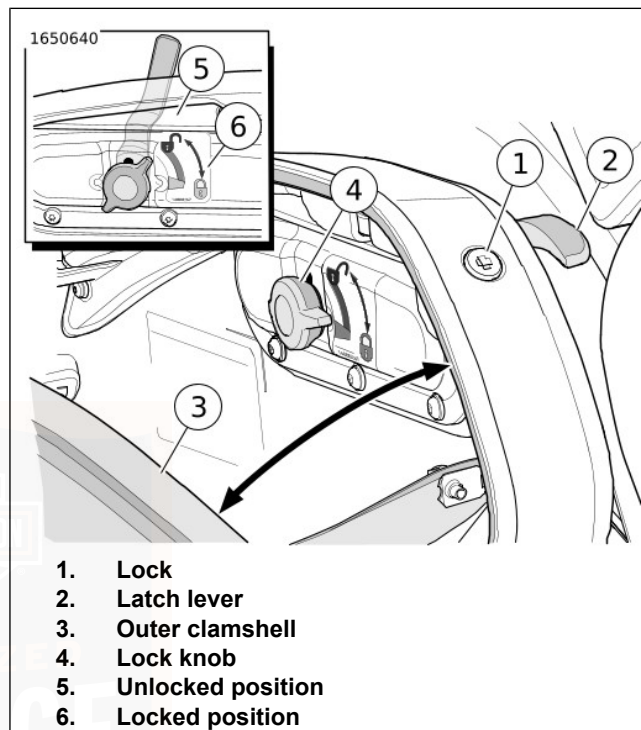
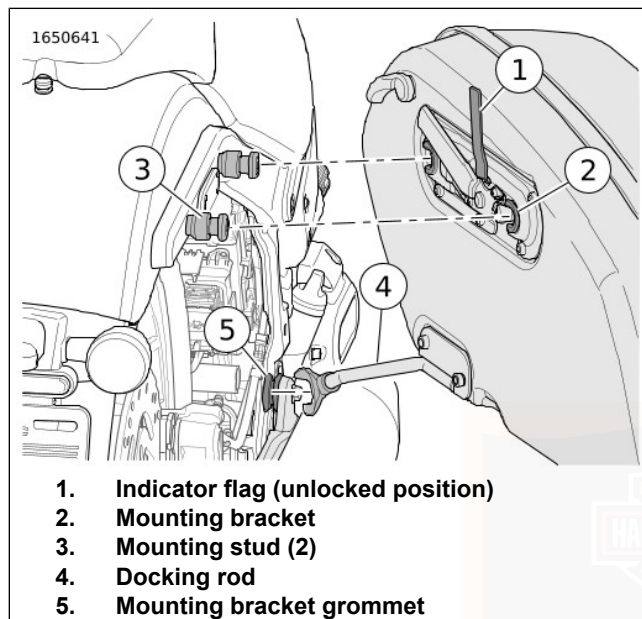
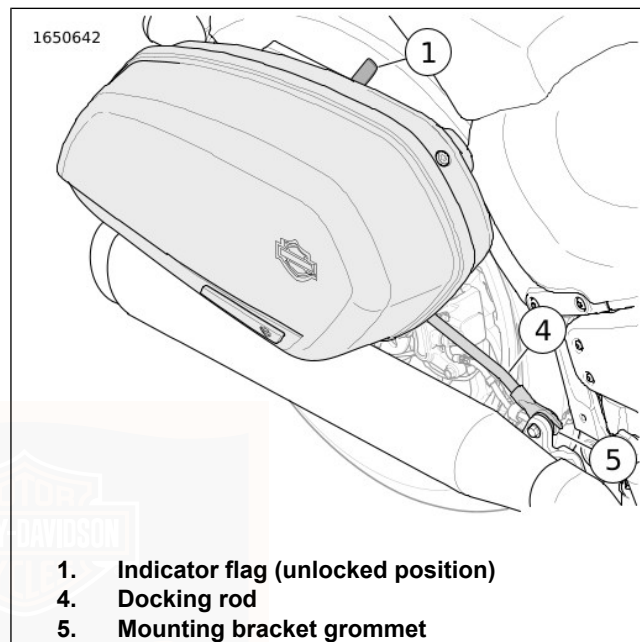

Figure 47. Saddlebag Lock Knob
Figure 48. Saddlebag Mounting Bracket
Figure 49. Saddlebag Docking Rod
- See Figure 47. Unlock saddlebag.
- Insert key into lock (1) and rotate one-quarter turn counterclockwise.
2. Lift latch lever (2).
3. Open saddlebag by pulling outer clamshell (3) away from inner clamshell.
1. See Figure 47. Close saddlebag.
a. Close clamshell by lifting outer clamshell (3).
b. While holding saddlebag outer clamshell closed lower latch lever (2).
a. Insert key into lock (1) and rotate one-quarter turn clockwise.
1. See Figure 47. Open saddlebag outer clamshell (3).
2. Pull out and turn lock knob (4) to the unlocked position (5).
3. Close saddlebag outer clamshell and lower latch lever (2).
4. See Figure 49. Slide saddlebag rearward to disengage the saddlebag docking rod (4) from the mounting bracket grommet (5).
3. See Figure 48 and Figure 49. Place saddlebag mounting bracket (2) on mounting studs (3) while aligning the saddlebag docking rod (4) with the mounting bracket grommet (5). Slide saddlebag completely forward.